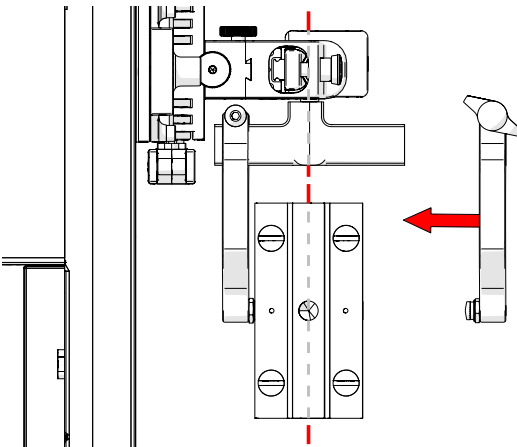

Fig. 130 - Align probe with yoke
6. Align the middle of the wedge with the centre of the yoke (Fig. 130).
7. Tighten both the probe holder arm adjustment knob and the arm clamp screw (Fig. 130) while ensuring the wedge remains centred with the yoke.